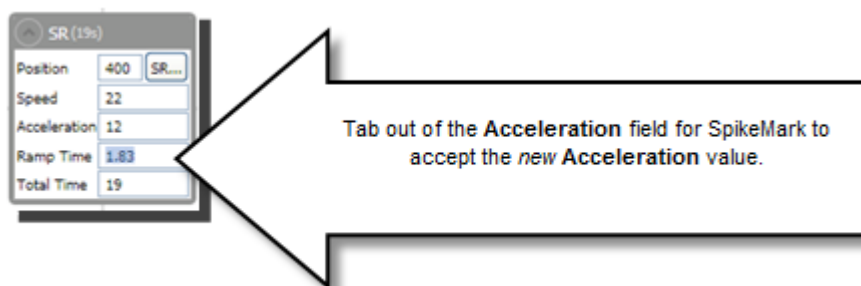

Figure 138
3. Enter in a new **Acceleration** value and press the **Tab** key. (Figure 138).